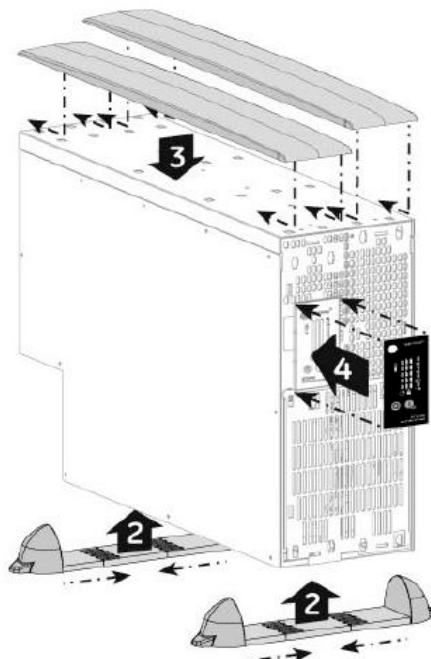
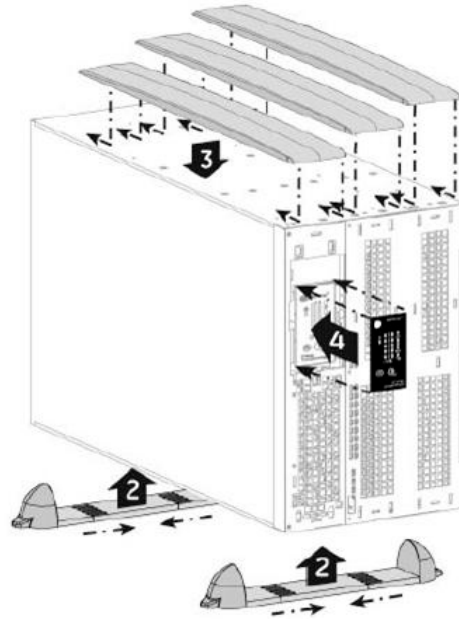

FIG 7 – XPRT-6KVA TOWER ASSEMBLY
FIG 8 – XPRT-10KVA TOWER ASSEMBLY
2. Assemble the plastic support feet and mount them to UPS bottom (see FIG 7 or FIG 8)